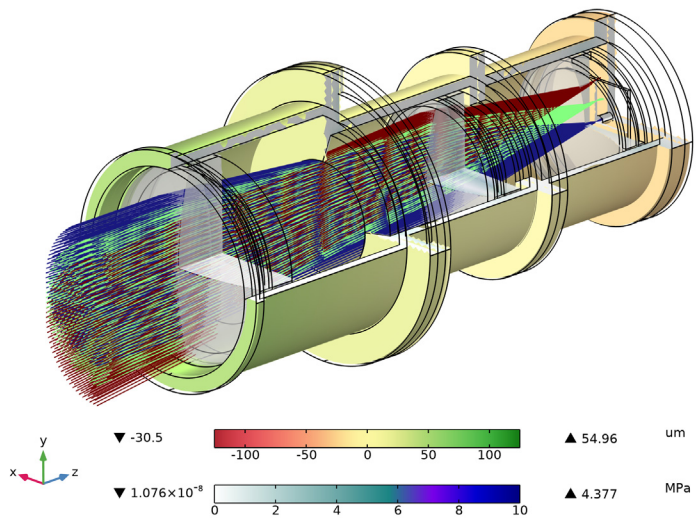

Figure 7: In this ray trace, the displacement field is shown together with the von Mises stress for a temperature  $T = 0^{\circ}\text{C}$ .
- 6 In the **Displacement** toolbar, click  **Plot**. Compare to Figure 7.